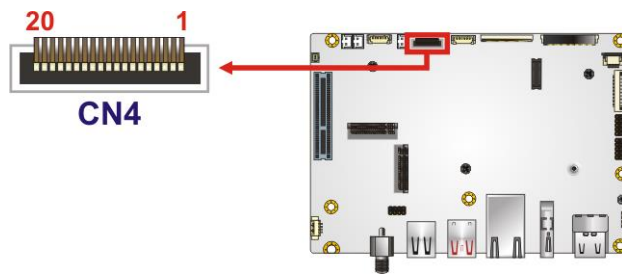

Figure 3-12: SATA Drive Connector Location
- CN Location:** See **Figure 3-12**